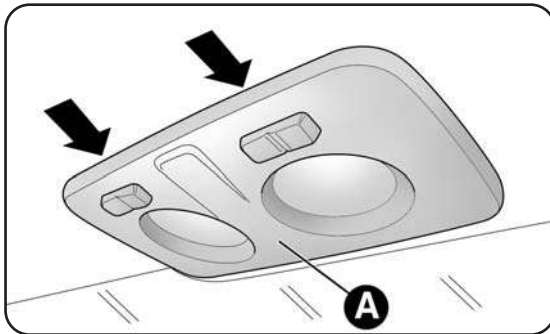
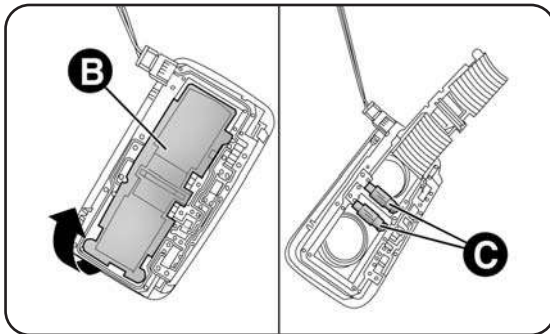

fig. 26
fig. 27
- remove the roof light A - fig. 26 by acting on the points shown by the arrows;
- open the protective flap B - fig. 27;
- close flap B - fig. 27 and fasten the roof light A - fig. 26 in its housing, making sure it is locked correctly.
IMPORTANT In some versions, the roof light in fig. 26 is at the back (electric sun roof version). To replace the relevant bulbs, refer to the procedure described in paragraph “Rear roof light” in this chapter.